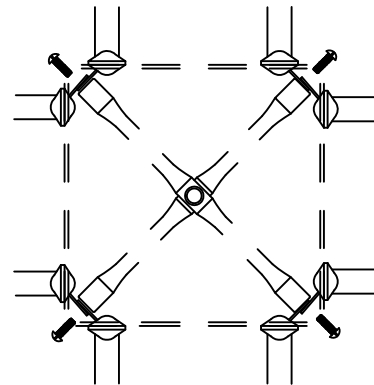

FIG. 2
Attach all four ends of the (G) cross brace, where the tabs of each leg meet. Use the bolts temporarily secured to hold each leg together, see FIG. 2.